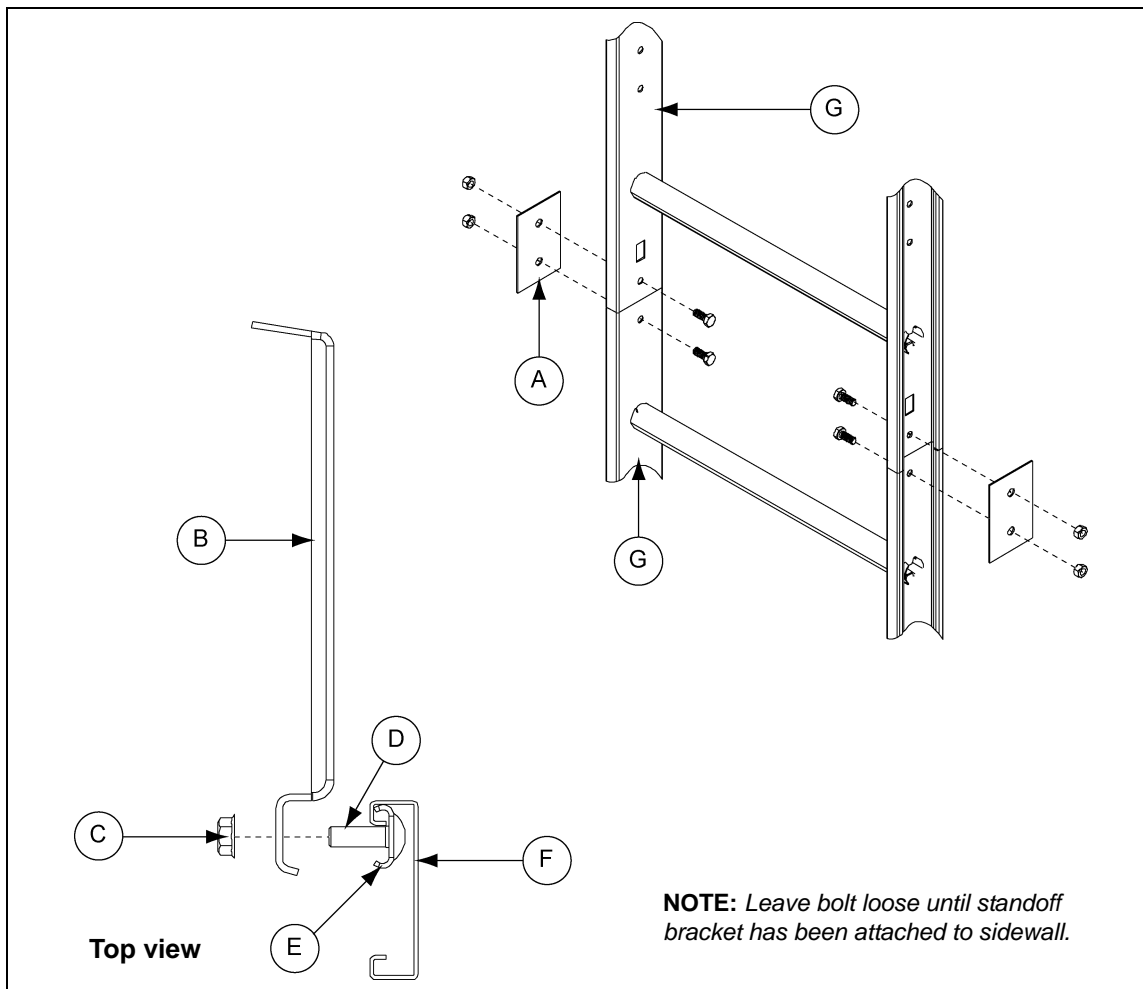

Figure 8L
Two (2) splice plates are required to attach each additional ladder section. The head of the bolt should be to the inside of the ladder with the splice plate on the outside as shown in Figure 8L. Use 5/16" x 3/4" bolts for all connections.